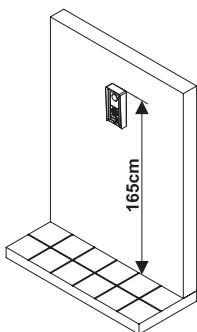
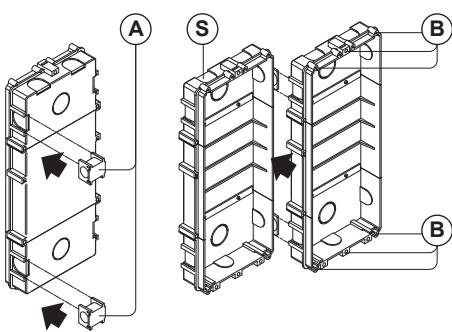

Fig. 1
Fig. 2
1. Mount back box **(S)** (Fig. 2) at 165 cm from ground level (Fig. 1);
2. If more than one flush box is needed, connect them by using the plastic spacers provided **(A)** (Fig. 2);
3. If necessary finish and clean properly the module support fixing holes and all other holes **(B)** (Fig. 2);